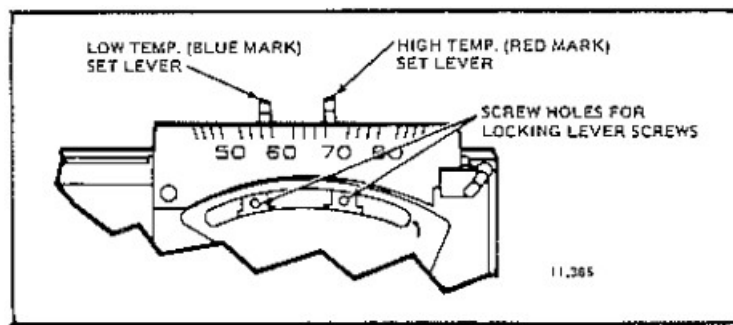

Fig. 10—Temperature control levers.
- The two levers on top of thermostat control the low and high temperatures for energy savings and com-fort control (Fig. 10). The lever on the left (blue mark) controls the lower temperature. The lever on the right (red mark) controls the higher temperature.